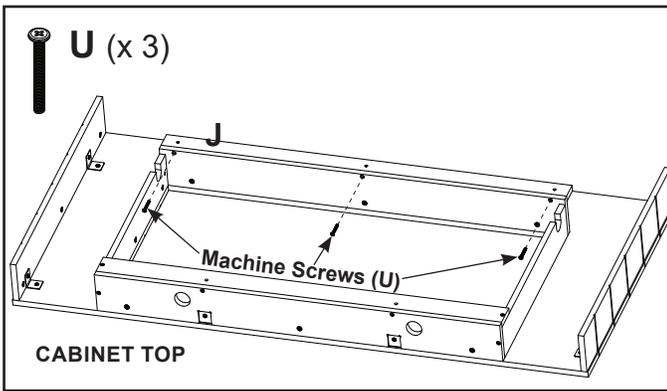

Figure 27
- Secure part "J" to part "I" using three (3) M6 x 45 Machine Screws (U). See Figure 27.